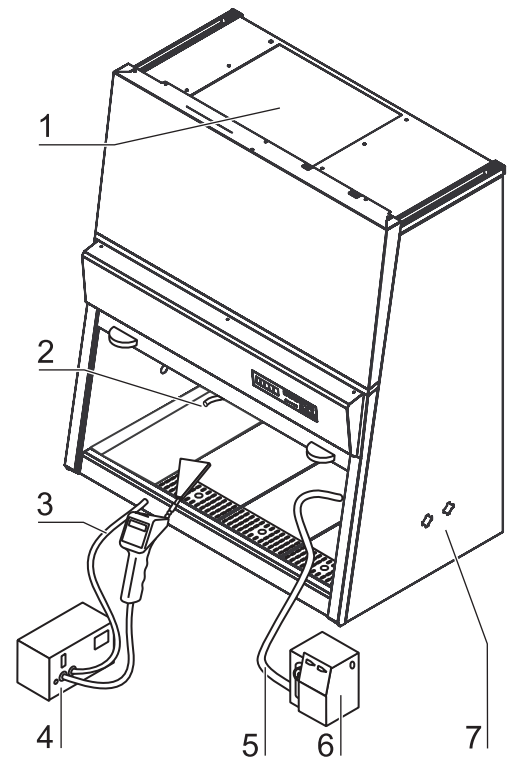

Fig. A1
1. **Fig. A1:** Route the hose [5] of the aerosol generator [6] so that the aerosoles are supplied to the downflow upward air-flow.